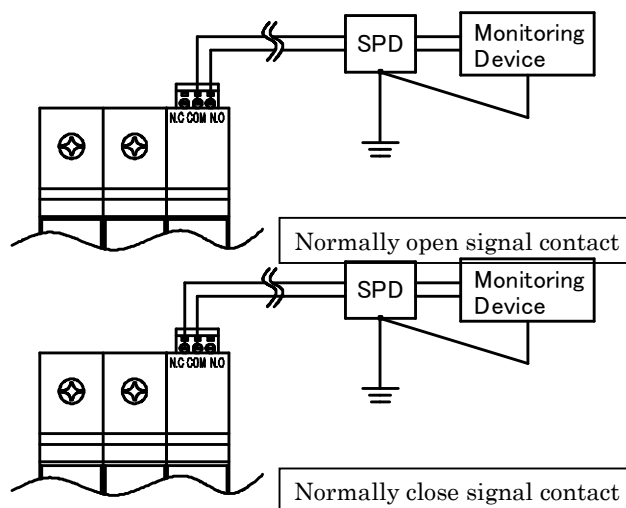

Fig.10 Connection of signal wires
2) The connection of signal wires is shown in Fig.10.